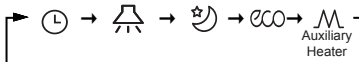

Figure 6.11
- Press **[F]** (Function) button to go to the function setting, and the display on the wired controller will show in turns: "⌚", "🔥", "🌙", "eco", "M" (reserved). Alternatively, you can press ▲ and ▼ buttons to switch to the selected function. (see Figure 6.11)